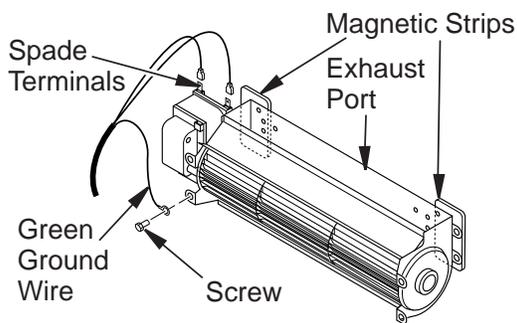

Figure 15 - Blower Model BK
1. Be certain that all wire terminals are securely attached to terminals on blower motor and that the screw retaining the green ground wire is tight (see **Figure 15**).
2. Place blower against lower rear wall of firebox outer wrapper with exhaust port directed upward. Depending on your model, you may have to carefully route the blower assembly past controls and brackets and position blower inside back opening. The blower will be held in position against the back wall by magnets incorporated onto blower housing (see **Figure 15 and 16**).